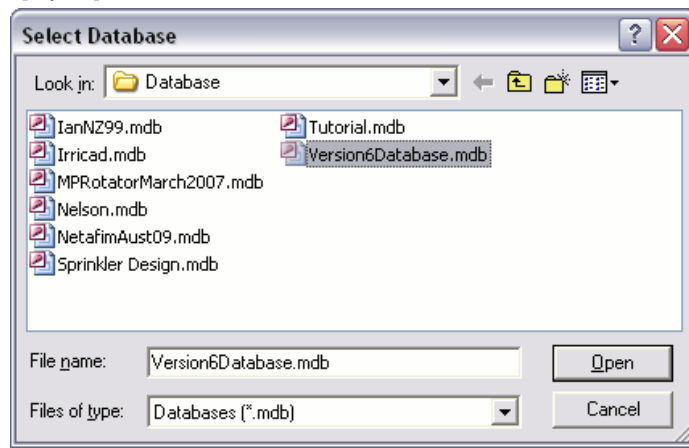

Figure 5-23
2. To use the currently selected database (i.e. the default database) select [Yes]. Select [No] if a different database is to be used. A dialog will appear in which you can browse for and select the required database as shown in Figure 5-23. Click [Open].